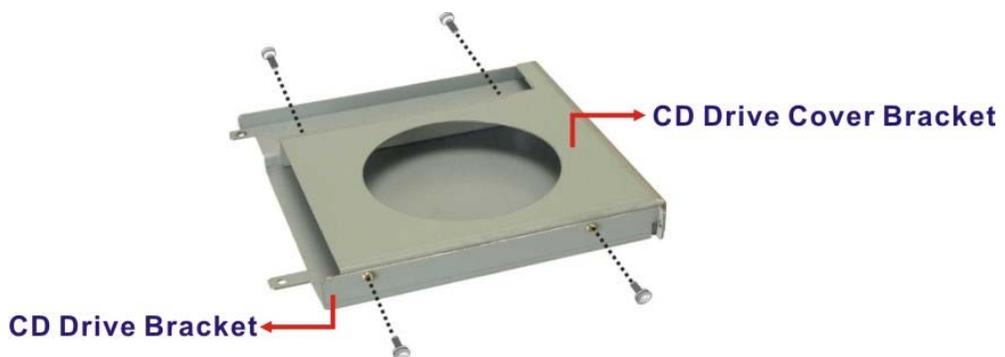

Figure 4-14: CD Drive Cover Bracket Retention Screws
Step 4: Remove the CD drive cover bracket by removing the four retention screws shown in **Figure 4-14**.